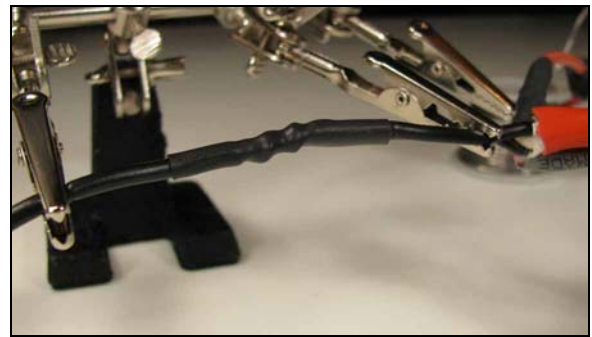

Figure 16: Soldered Black Wires and Heat Shrink Tubing Applied
- Twist the two black bare wires and solder (Figure 16).
- Insulate this solder joint with the heat-shrink tubing (Figure 16).